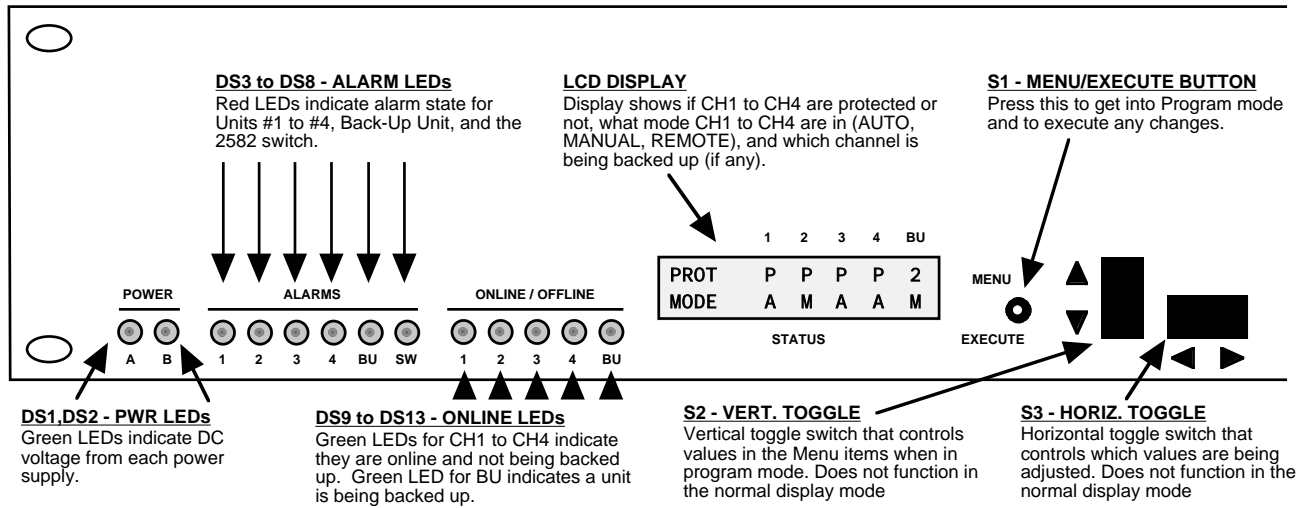

FIGURE 2.2 2582-344 Front Panel Controls and Indicators
Figure 2.2 shows the front panel controls and indicators.
5. Be sure DS1 & DS2 (green, DC Power) are on and DS3 to DS8 (red, Alarm) are off (Figure 2.2).
Alarm indications appear on the LEDs (see figure 2.2).